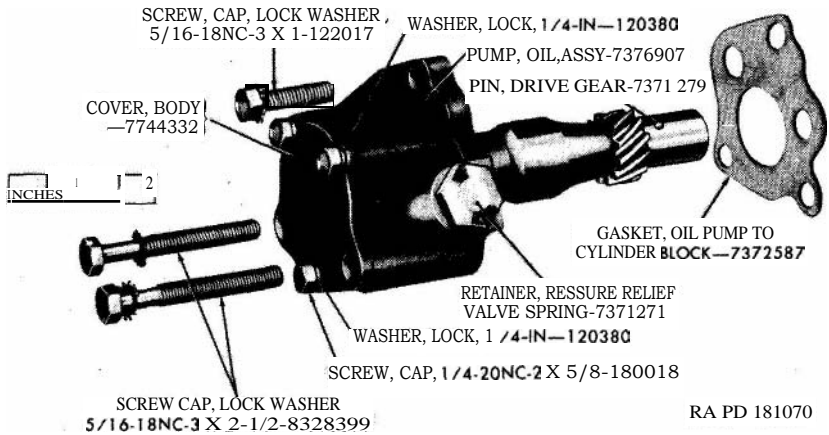

Figure 59. Oil pump assembly.
- a. Use an abrasive wheel or a file to cut off either end of the oil pump drive gear pin (fig. 59). Drive the pin out of the gear, using a $\frac{1}{4}$ -inch drift punch. Remove the gear from the end of the shaft.
- b. Remove the three cap screws securing the oil pump body cover (fig. 59) to the oil pump body. Remove the cover and gasket.
- d. Back the pressure relief valve spring retainer (fig. 59) out of the oil pump body and remove the retainer gasket, the shim, the pressure relief valve spring, and the pressure relief valve.